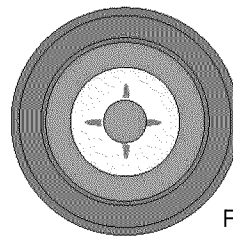

Fig. 3
5. Adjust the inner flame to desired size -*Fig. 3*.